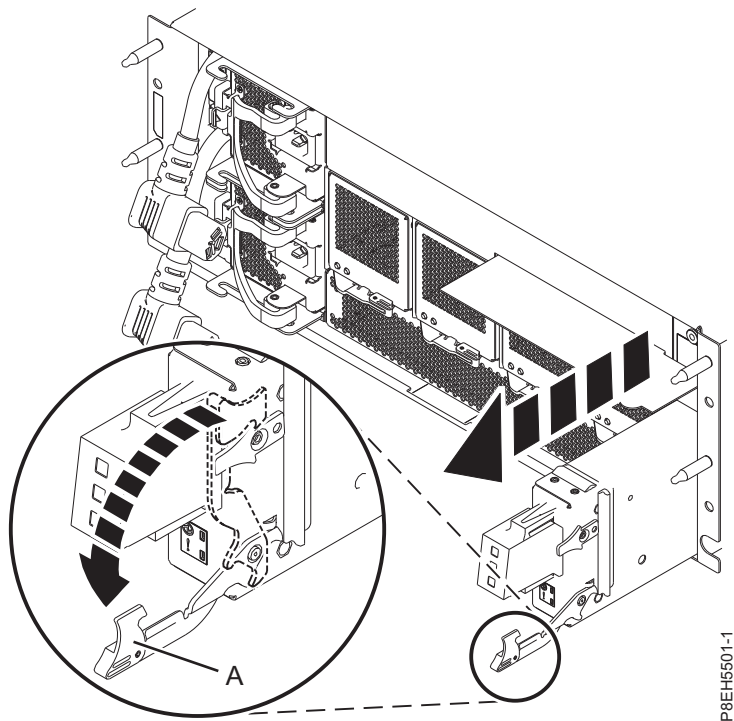

Figure 5. Removing the chassis management card
4. Grasp the end of the latching handle (A) and press it down to unlock the chassis management card. See Figure 5.
5. Using your hand to support the bottom of the chassis management card, slide it out of the backplane. See Figure 5.